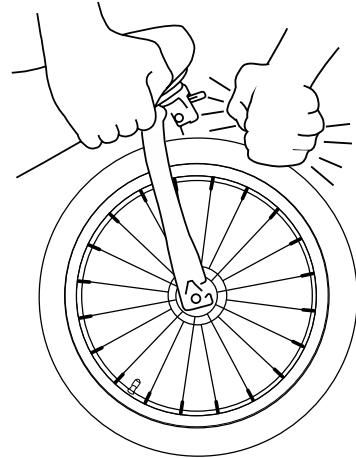

Fig. 1D
5. Lift the front wheel off of the ground and sharply strike the top of the tire. (Fig. 1D) The wheel should not be loose or come off.